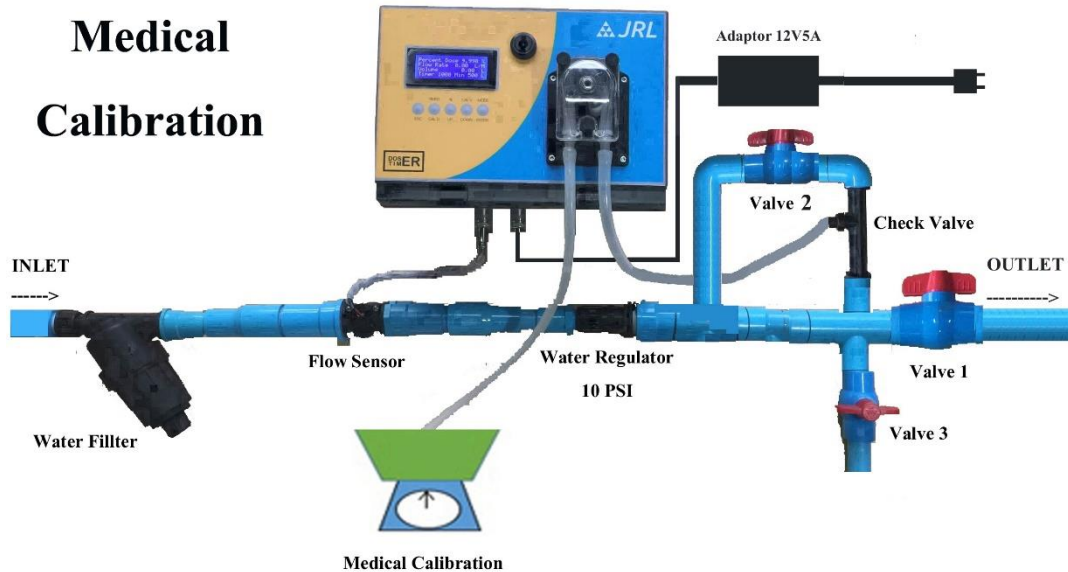

Fig.9 Dose calibration flow chart.
1.2.1 Set the Water Tank and Scale as Fig.9